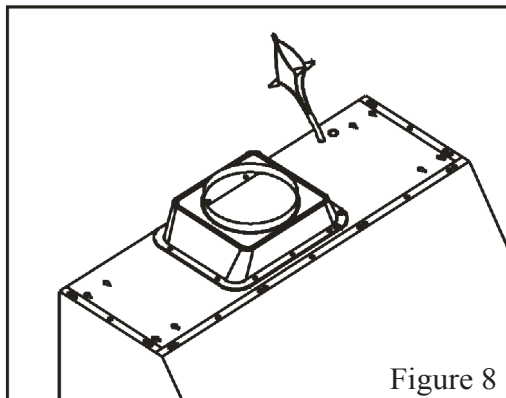

Figure 8
3. Connect the range hood to a designated standard outlet or cut off the plug and connect three wires (black, white and green) to house wires and cap with wire connectors. Connect according to colors (i.e. black to black, white to white, and green to green) as shown in Figure 8.